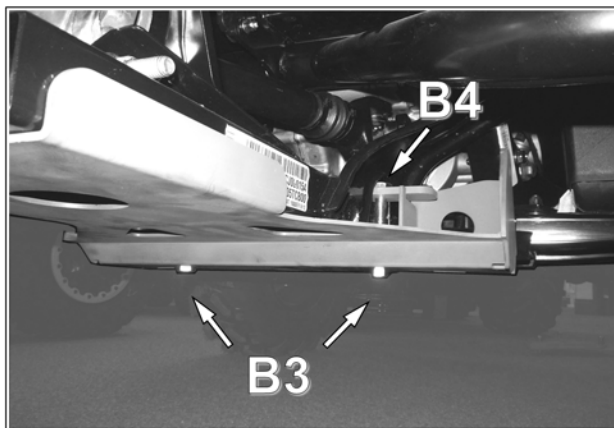

Fig. 6
5. Lift and pivot the rear main anti-rotation plate in place and insert the two M10x85mm mounting bolts (**B3**) through the plate bottom. Secure the plate in position using nylon nuts (**B4**) over the bracket cover. Tighten these two assembly bolts to 50 N•m [37 lb•ft]. See Fig. 6